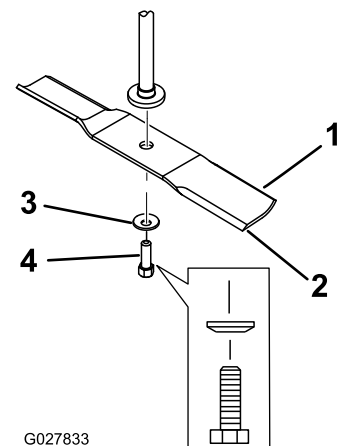

Figure 62
2. Remove the blade bolt, curved washer, and blade from the spindle shaft (Figure 62).
1. Install the blade onto the spindle shaft (Figure 62).
2. Install the curved washer (cupped side toward the blade) and the blade bolt (Figure 62).